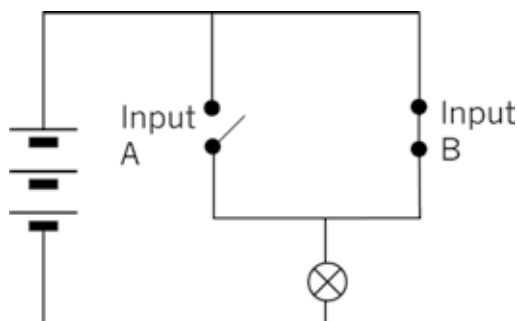

Figure 12: Circuit with two switches in parallel
7. Complete the truth table below for the circuit in Figure 12.